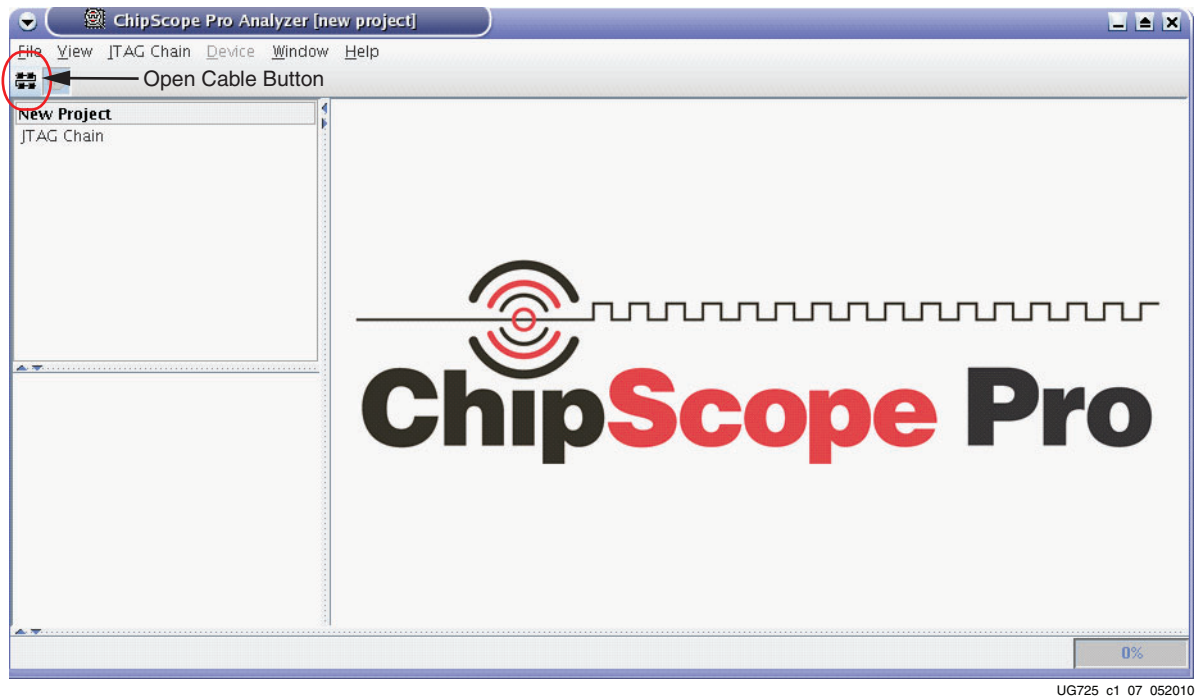

Figure 1-7: Open Cable Button
- Click the **Open Cable** button (Figure 1-7).